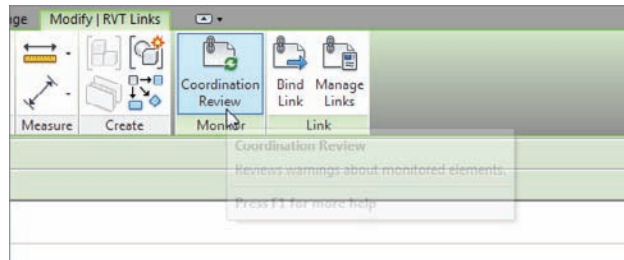

FIGURE 20.16 The Coordination Review button
21. To check whether there are any more issues, select the structural link and pick the Coordination Review button on the on the Modify | RVT Links tab as shown in Figure 20.16.